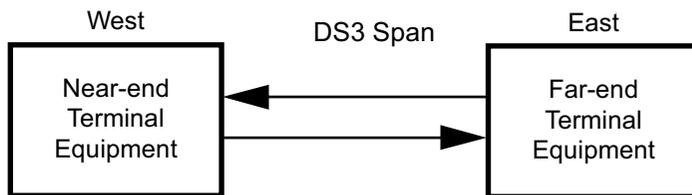

Figure 6-2. DS3 Far-End Block Error (FEBE)
The FEBE function uses the three C-bits in subframe 4 of the DS3 signal. This is illustrated in the following example (refer to Figure 6-2):
The near-end terminal equipment (TE) continuously monitors its incoming direction of transmission (west-bound in Figure 6-2) for the occurrence of a framing or parity error event. Upon detecting a framing or parity error event via the west-bound CP-bits, the near-end TE will count the event as a C-bit parity error, and indicate (via the east-bound FEBE bits) to the far-end TE that an error has occurred. The C-bit parity error is indicated via the east-bound FEBE bits by setting the three FEBE bits to “000” in order to indicate the error. The three FEBE bits are set to “111” if no parity error event has occurred. Because the DS3 terminal equipment (TE) monitors both the CP-bits and FEBE bits (as well as the FEAC channel), the overall performance of the DS3 path can be determined at either end of the path for both directions of transmission.